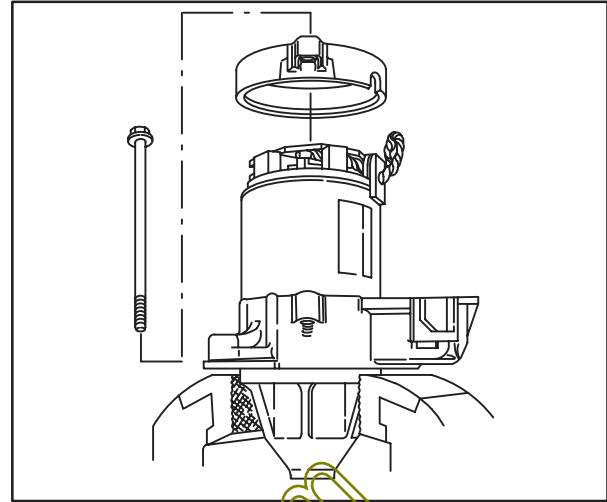

Fig. 47
8. Install end cap, **Fig. 47**. Torque thru bolts to 70 in. lbs. (8 Nm).